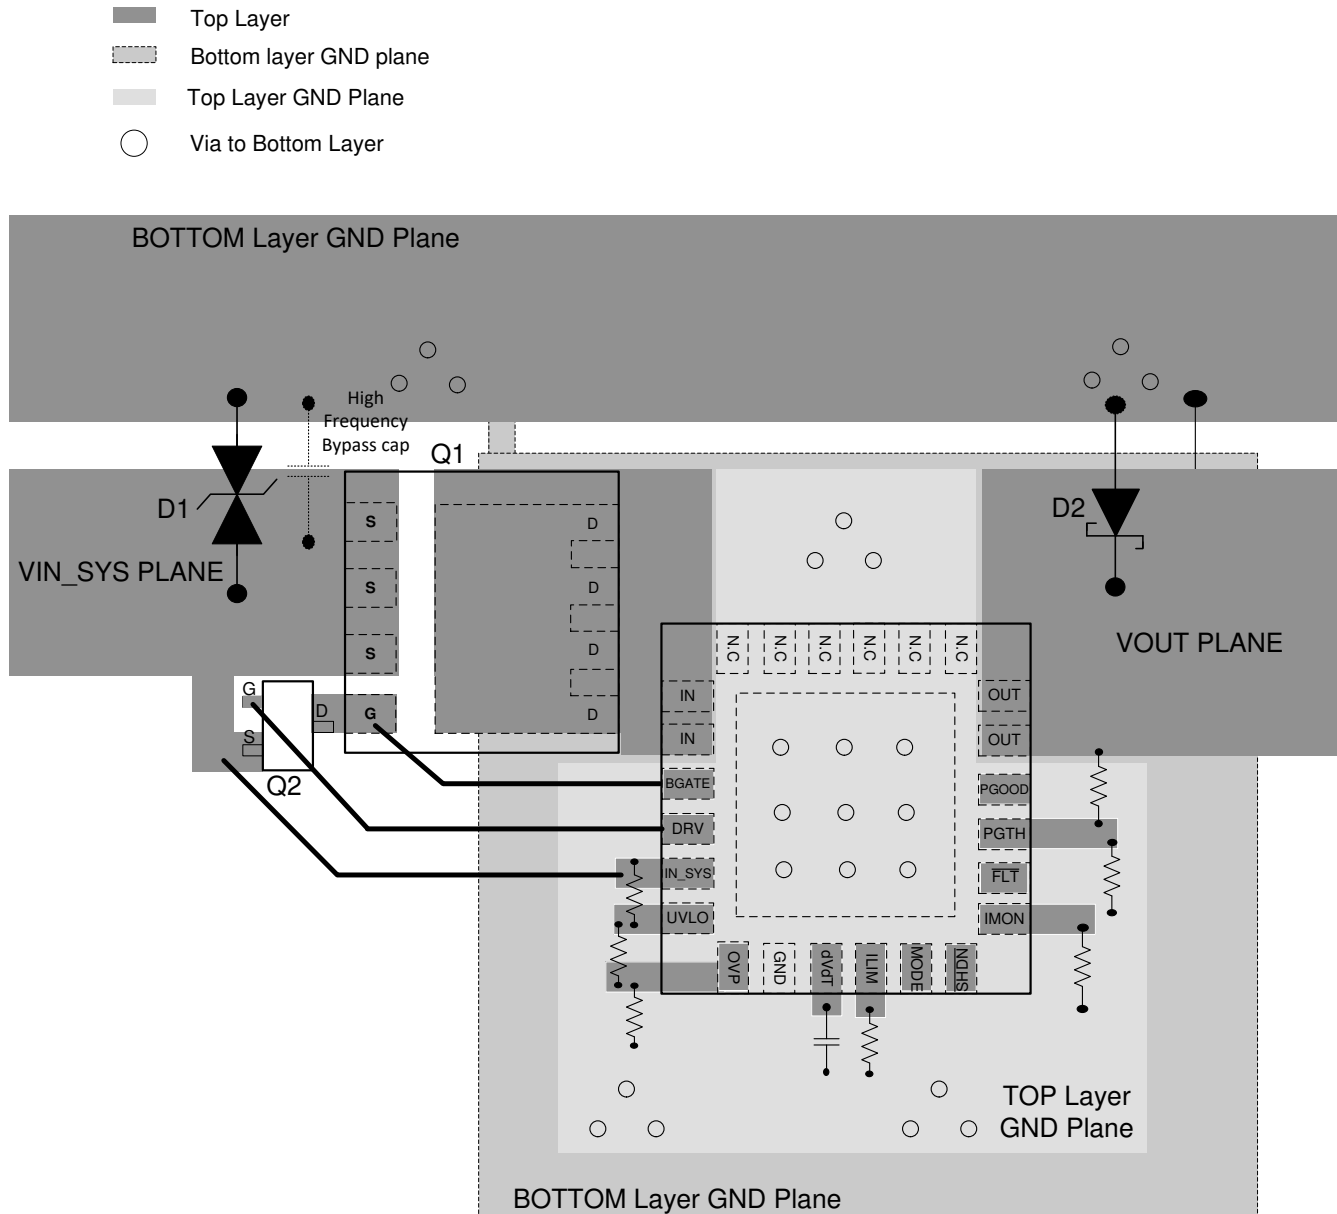
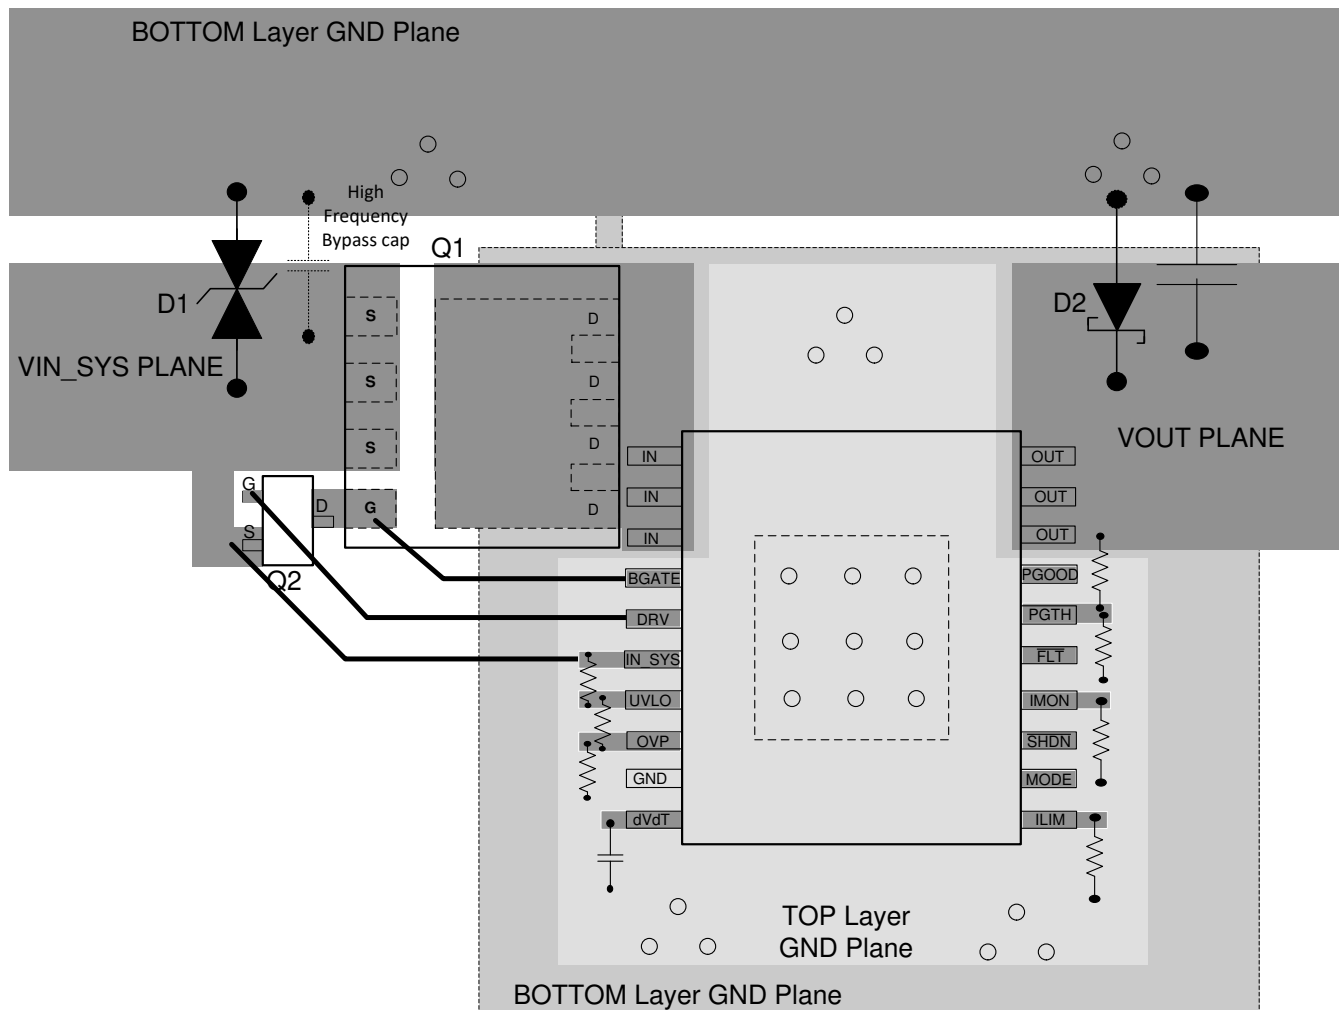

图 9-18. Typical PCB Layout Example with QFN Package with a 2-Layer PCB
图 9-19. Typical PCB Layout Example with HTSSOP Package with a 2-Layer PCB
- The external FET Q1 must be placed with DRAIN close to the V_{IN} pins of the IC and connected through a plane. The fast pulldown switch Q2 DRAIN and SOURCE must be placed very close to the GATE and SOURCE terminals of Q1 with very short loop. See Figure 9-18 and Figure 9-19 for a typical PCB layout example.